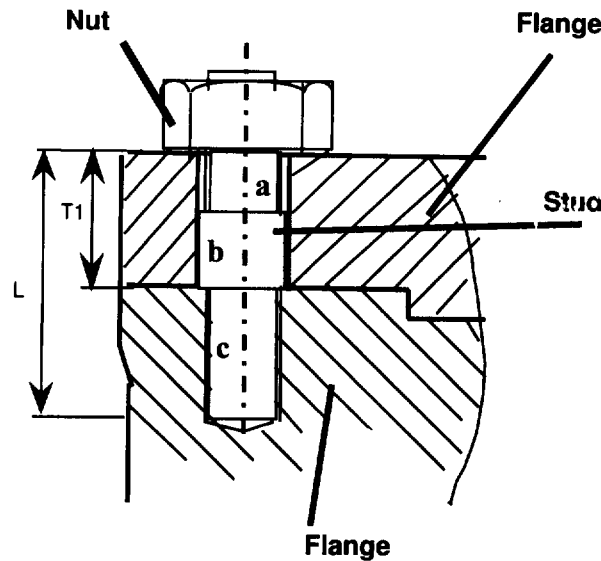

Figure 2 – Schematic of Flanges and Stud-Nut Combination for Situation "1"
In Figure 2, a close-up of one of the stud labeled "1" and the flanges/members to be clamped is given. *Figure 2 is not drawn to scale, so do not derive any dimensions directly from the drawing.*
The length L of the grip is 60 mm. The thickness T1 of the top flange is 30 mm. There is a hardened washer being used under the nut with a diameter of 25 mm (not shown in Figure 2). Both flanges are made out of gray cast iron.
- b) Calculate the stiffness of the stud in Figure 2, which represents the studs labeled "1"..
Assume a joint constant of $C = 0.30$ for the **two** next questions which concern Figure 2.